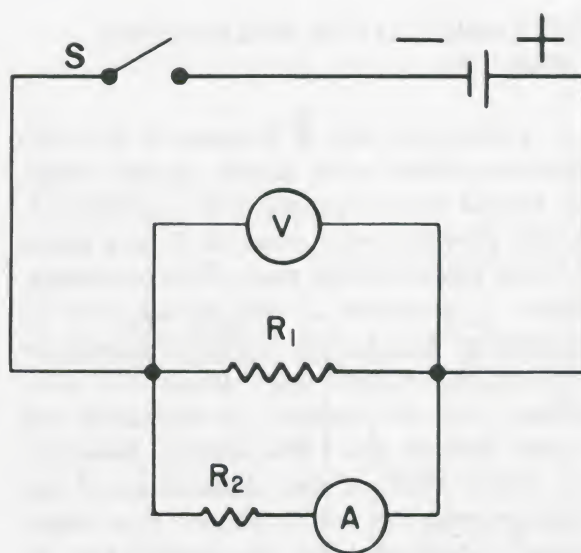

Figure 6.
4. The circuit diagram in Figure 6 represents another circuit which has been set up for you. Check the wiring to be sure that it agrees with the diagram. Close the switch. Record the meter readings and the values of the two resistors. The next section discusses how features of this circuit are used to convert an ammeter to a voltmeter.